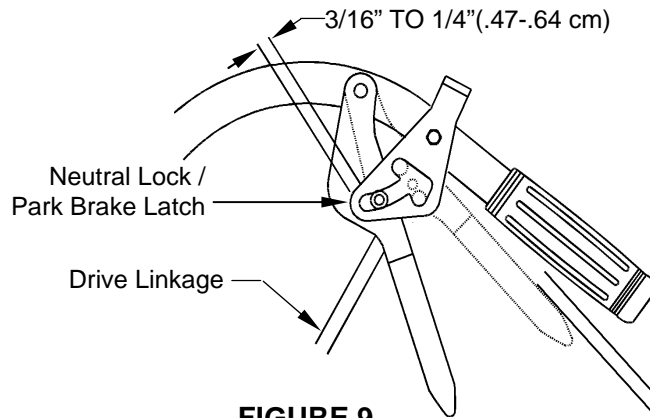

FIGURE 9
- c) Adjust drive linkage length by threading into or out of the swivel until there is a 3/16" to 1/4" (.47-.64 cm) clearance between the linkage assembly and the bottom of the slot in the neutral lock/park brake latch (See Figure 9).